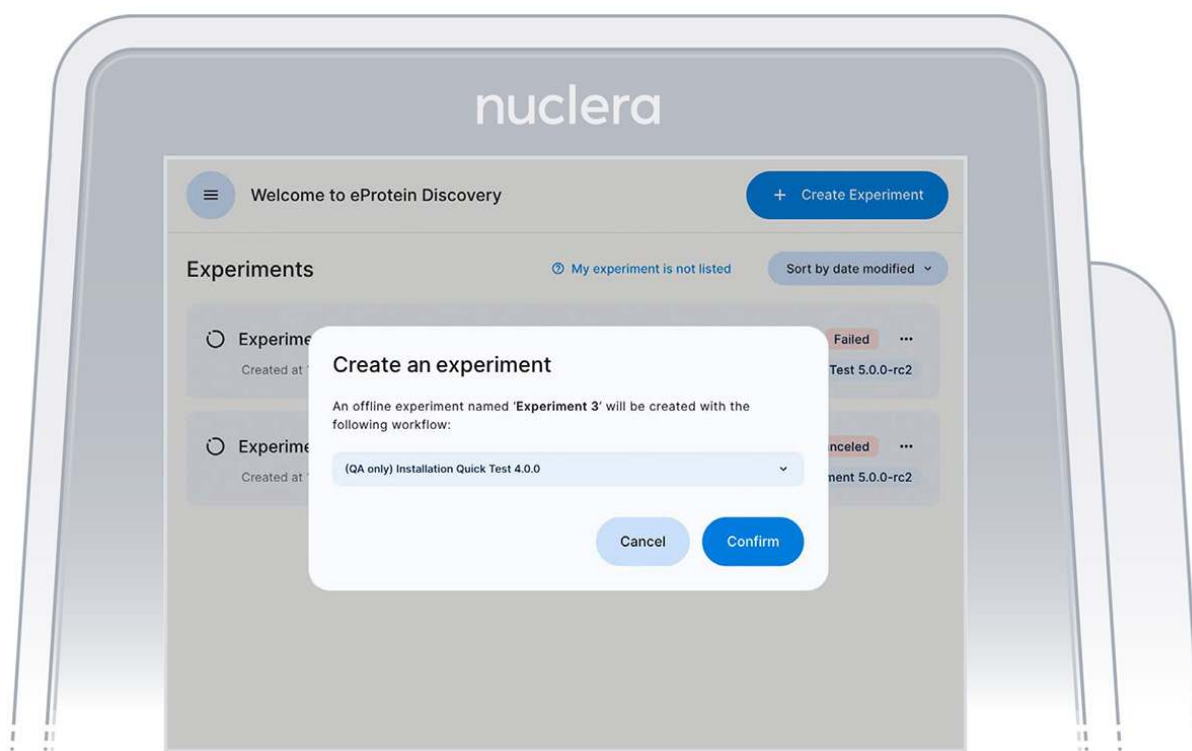

Figure 8: Experimental design screen
2. Select the '**eProtein Discovery Screen Experiment**' workflow and press **[Confirm]** (Figure 8)
3. Select the type of experiment you would like to perform on the instrument (Figure 8). You can choose between: